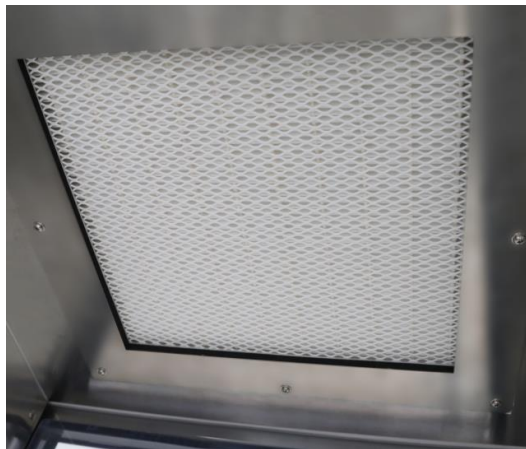

Figure 18: Filter inside pass-through
2. Gently let the used filter drop down, and set aside. The filter assembly is surrounded by a channel containing gel seal (See **Figure 18**).